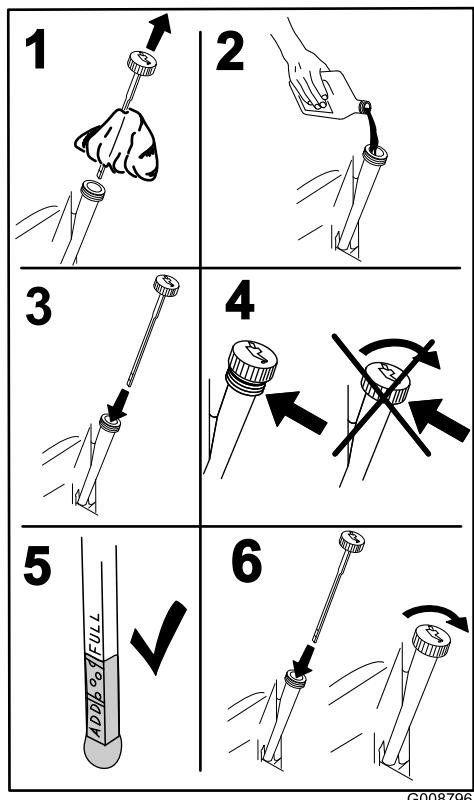

Figure 40
4. Remove the dipstick and wipe it with a clean cloth (Figure 40).